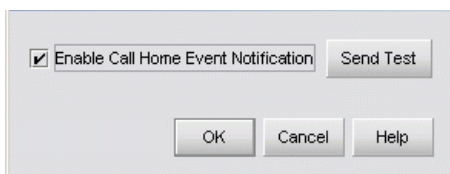

Figure 30: Call Home Event Notification Setup dialog box
2. At the HAFM or EWS main window, select the **Event Notification** and **Call Home** options from the Monitor menu. The Call Home Event Notification Setup dialog box displays (Figure 30).